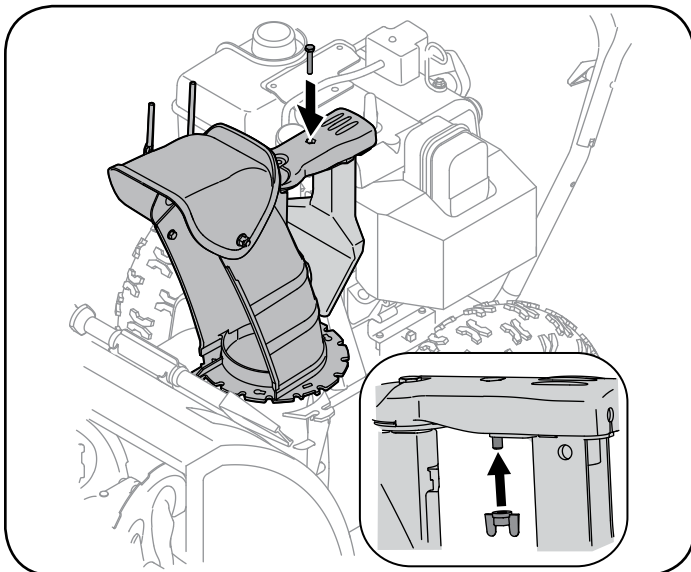

Figure 6
6. Finish securing chute control assembly to chute support bracket with wing nut and hex screw removed earlier. See Figure 6.